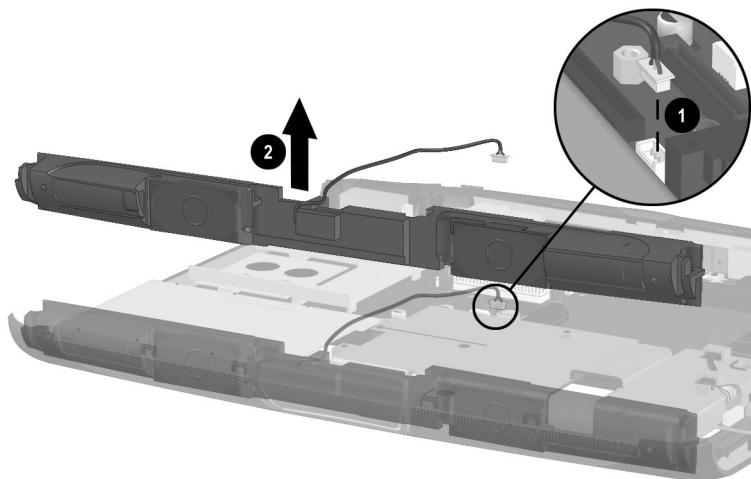

Figure 5-43. Removing the Speaker Assembly
2. Disconnect the speaker cable ❶ from the system board (Figure 5-43).
3. Lift the speaker assembly straight up and remove it ❷.